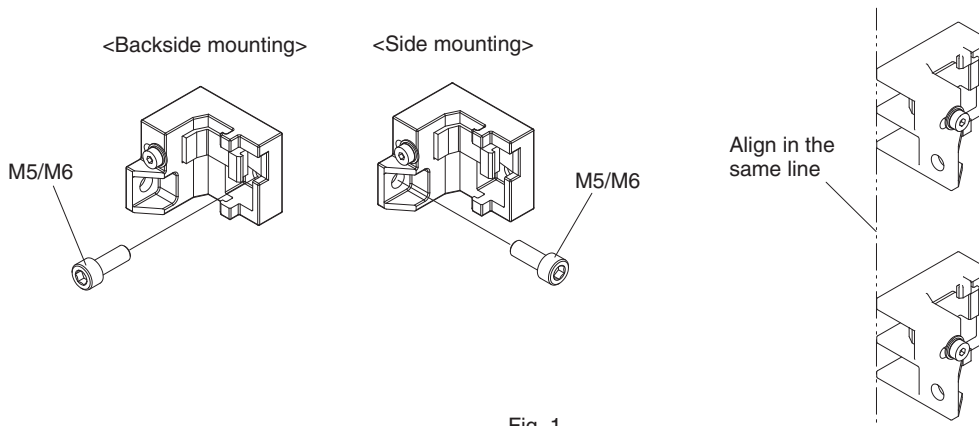

Fig. 1
1. Securely tighten the screws to fix the Side-Mount Bracket to the mounting position of the wall surface. When using more than one Side-Mount Brackets, align them in the same line using the sides of the brackets that do not face the wall, before attaching the brackets to the sensor. (Fig. 1)